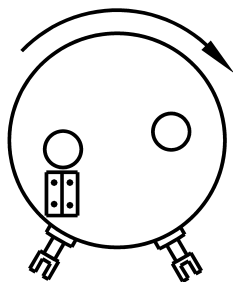

Figure 5
- Jumper placed "vertically" for clockwise direction. (see Figure 5)